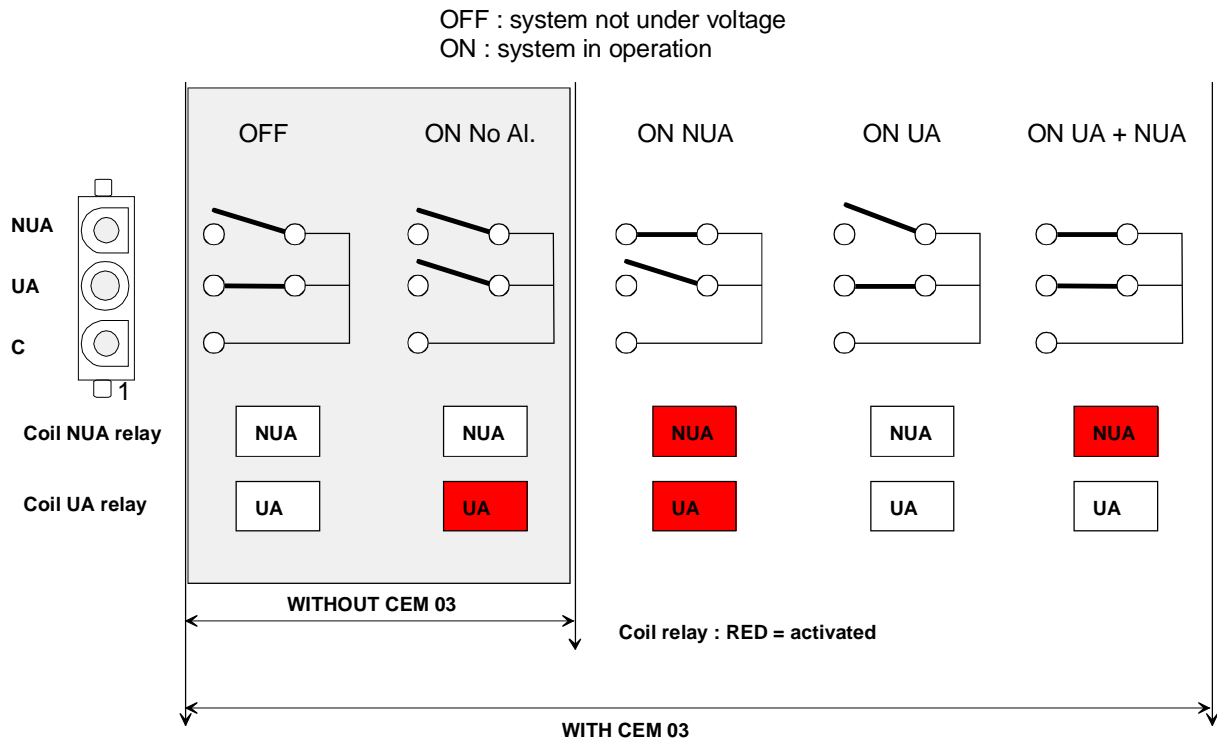

Figure 17 : alarm table – system level
1. Without controller CEM03 the alarm contacts are as given by the fig. 17 and these contacts are not monitored by the controller : this is a fixed configuration.